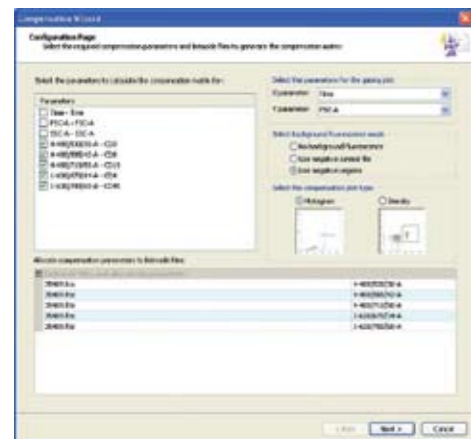

Figure 2. Configuration page of the Compensation Wizard
3. Open the Compensation Wizard from the compensation tab and configure the settings for compensation (See fig 2) click *Next*